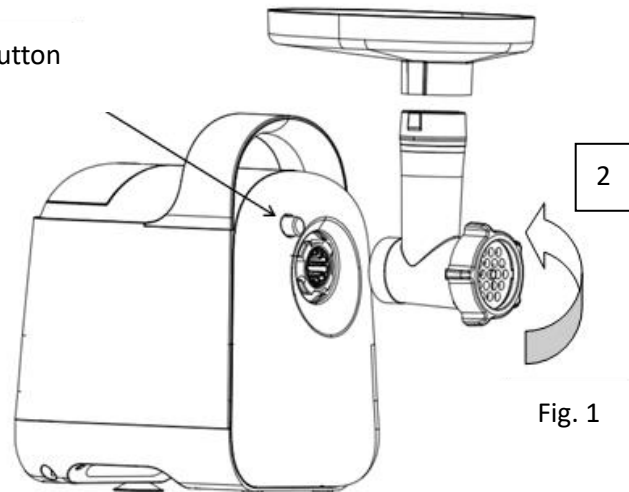

Fig. 1
1. Assemble the ream meat tube into the main machine. Press the release button with thumb one hand (see arrow 1 of fig. 1), and hold the ream meat tube with the other hand, insert it into the hole of the main machine and turn it anti-clockwise until it cannot move any longer (see arrow 2 of fig. 1). Release the release button, the ream meat tube is fixed on the main machine.